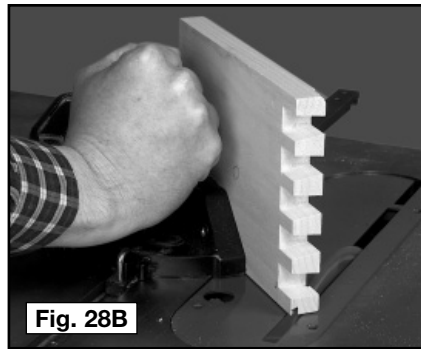

Fig. 28B
- Step 2** - Use a table saw with the miter gauge set to 45° to miter the squared-off half pin (Figs. 28B and 28C).